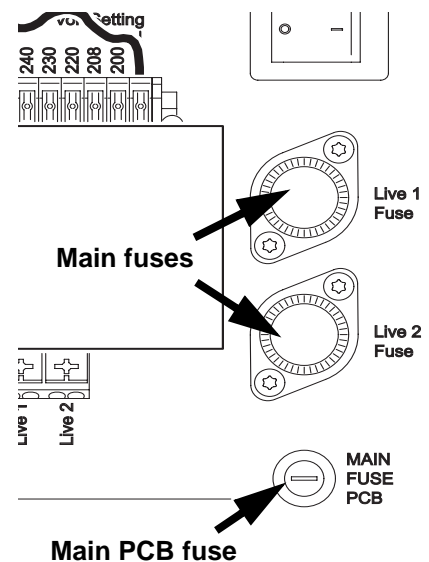

Figure 33: Fuses
3. See Figure 33. The two main fuses are located in fuseholders in the connections compartment. Unscrew the fuseholder caps with your fingers and remove the fuses.